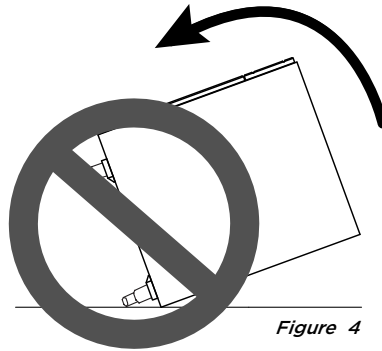

Figure 4
3. If your cabinet requires more than four legs, refer to Figure 4 to position the center legs with the flange facing the cabinet's center.
6. The legs are designed to hold the vertical weight of the cabinet. Do not tilt the base upward into position (Figure 4); doing so will apply undue pressure to the leg, which may result in breakage. Instead, lift the cabinet to clear the leg assemblies, rotate it 90 degrees upward, and set it down on all four legs. Do not scoot or shove the cabinet into place. Always lift and position (Figure 5) cabinetry into place.